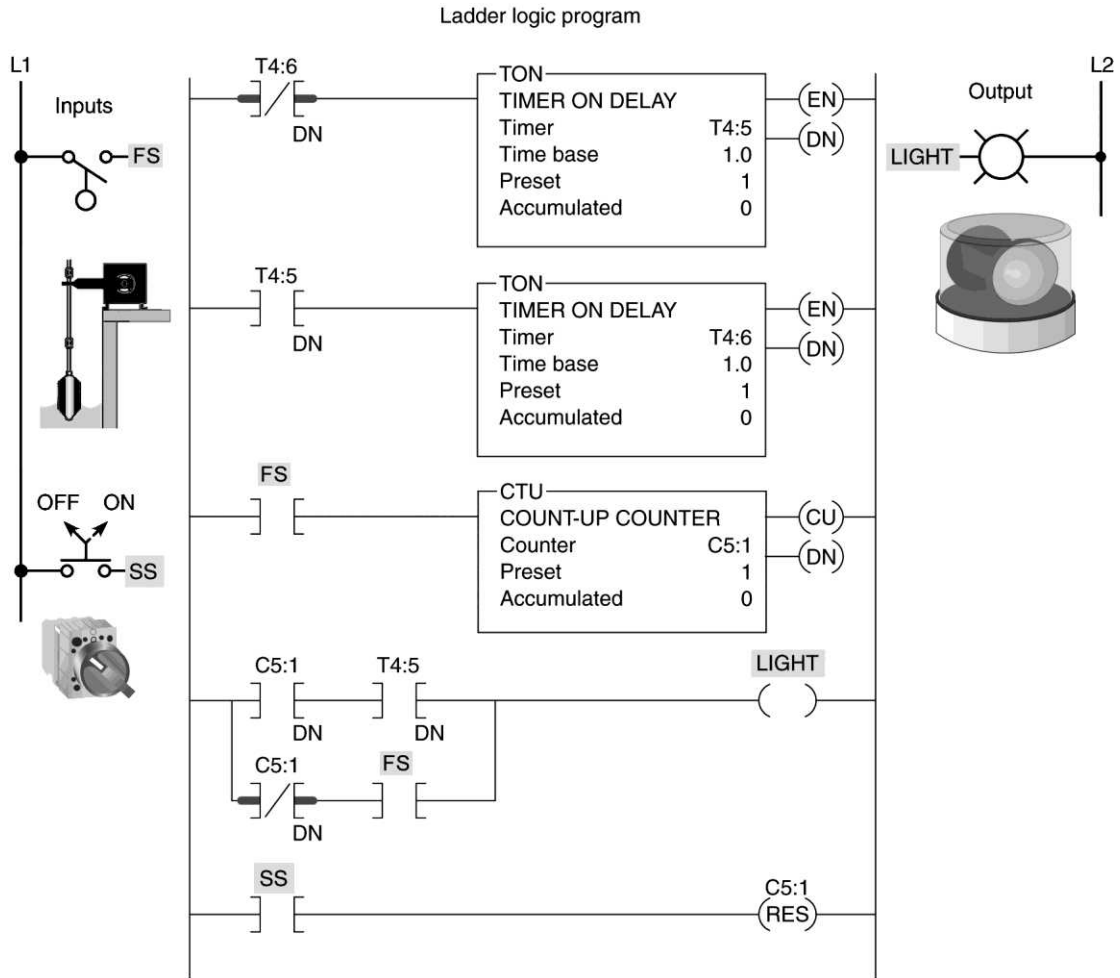

Figure 8-11 Alarm monitor program for assignment 5.
5) The alarm monitor program of Figure 8-11 is described in the text. Prepare an I/O connection diagram and ladder logic program for this process. Use addresses that apply to your PLC. Enter the program into the PLC, and prove its operation.